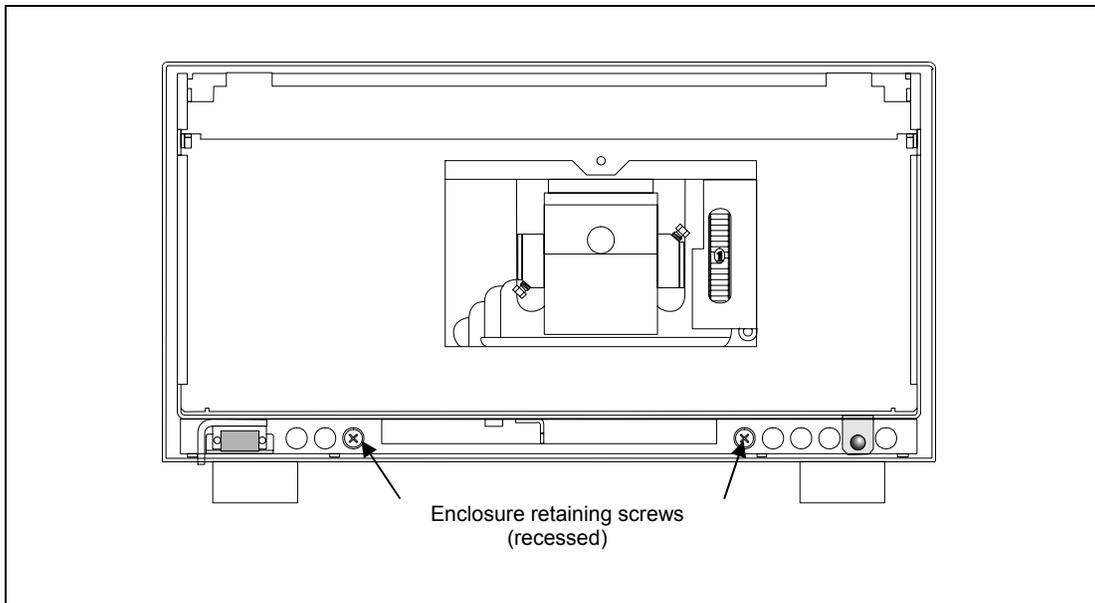

Figure 4.8 Detector with Front Panel Removed
4. To access the lamp compartment cover, loosen the two captive 3/16" Phillips screws that secure the chassis in place. These screws are in a recessed location in the base of the detector (Figure 4.8). The screws are spring loaded and will be retained when loosened.